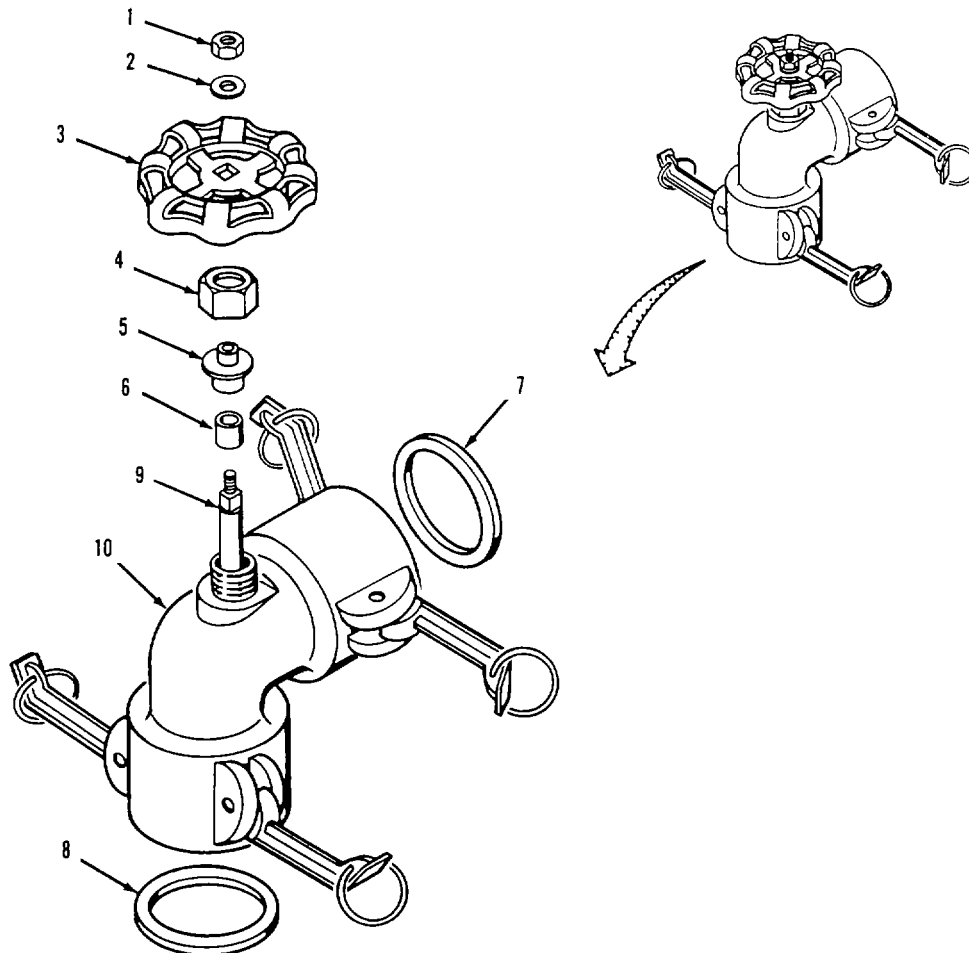

Figure 4-1. Elbow Valve Repair.
- a. Disassembly. Refer to figure 4-1.
- (1) Remove nut (1), washer (2) and handwheel (3) from stem (9)
- (2) Unscrew packing nut (4) from from valve body (10)
e. Assembly. Refer to figure 4-1.
- (1) Install coupling gaskets (7 and 8) in valve body (10)
- (2) Install packing (6) and packing gland (5) on stem (9)
- (3) Screw packing nut (4) onto valve body (10)
- (4) Place handwheel (3) on stem (9) and install washer (2) and nut (1)
- (5) Install elbow valve in water system (para 3-4).
- (6) Startup water system (para 2-13c) and check elbow valve assembly for leaks. If valve leaks at stem (9), tighten packing nut (4) 1/4 turn until leak stops. Do not over tighten.